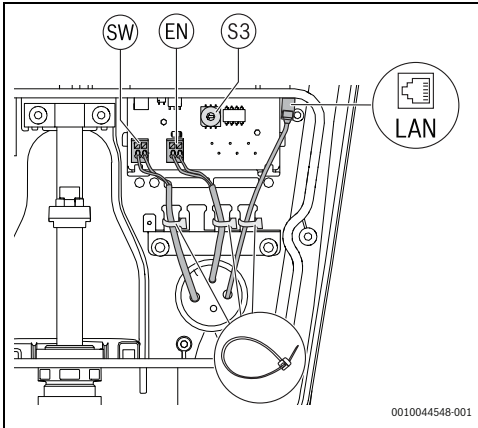

Fig. 40 Optional internal interfaces connections
- ▶ Connect a remote release for the upstream RCD or a contractor to the digital output SW (→ Fig. 40, chapter 4.2, page 38, [1]).